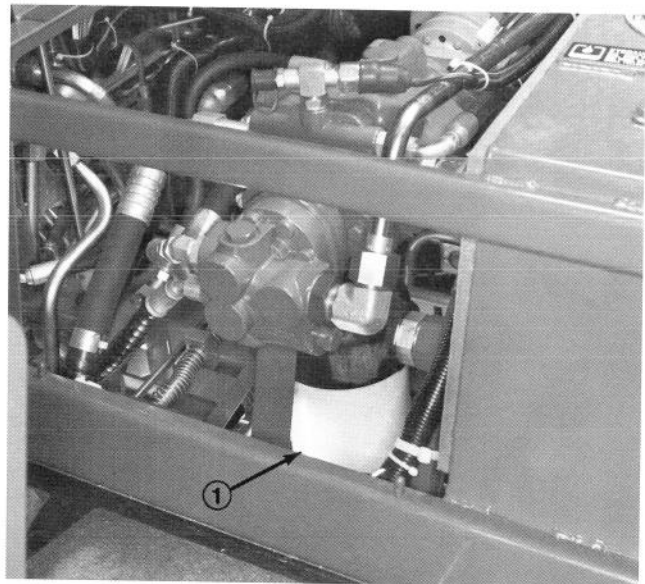

Figure 46
2. Clean area around filter mounting area (Fig. 46). Place drain pan under filter and remove filter.